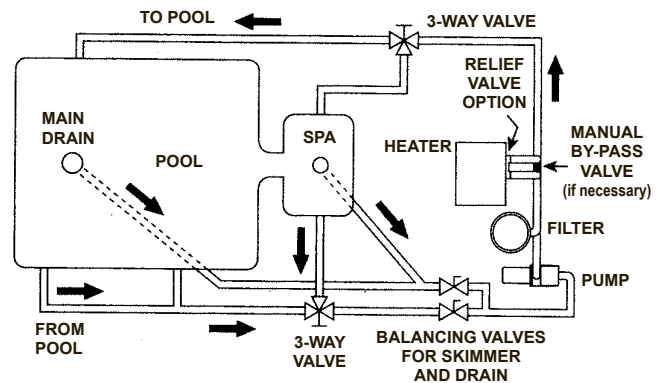

Figure 25: Typical Plumbing To Pool
7. Figure 25 shows a typical pool piping diagram and layout for pool equipment. Figure 26 shows multiple heater usage for very large pools with and without an external by-pass (balancing) valve.